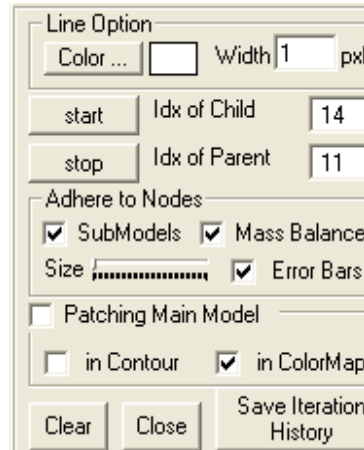
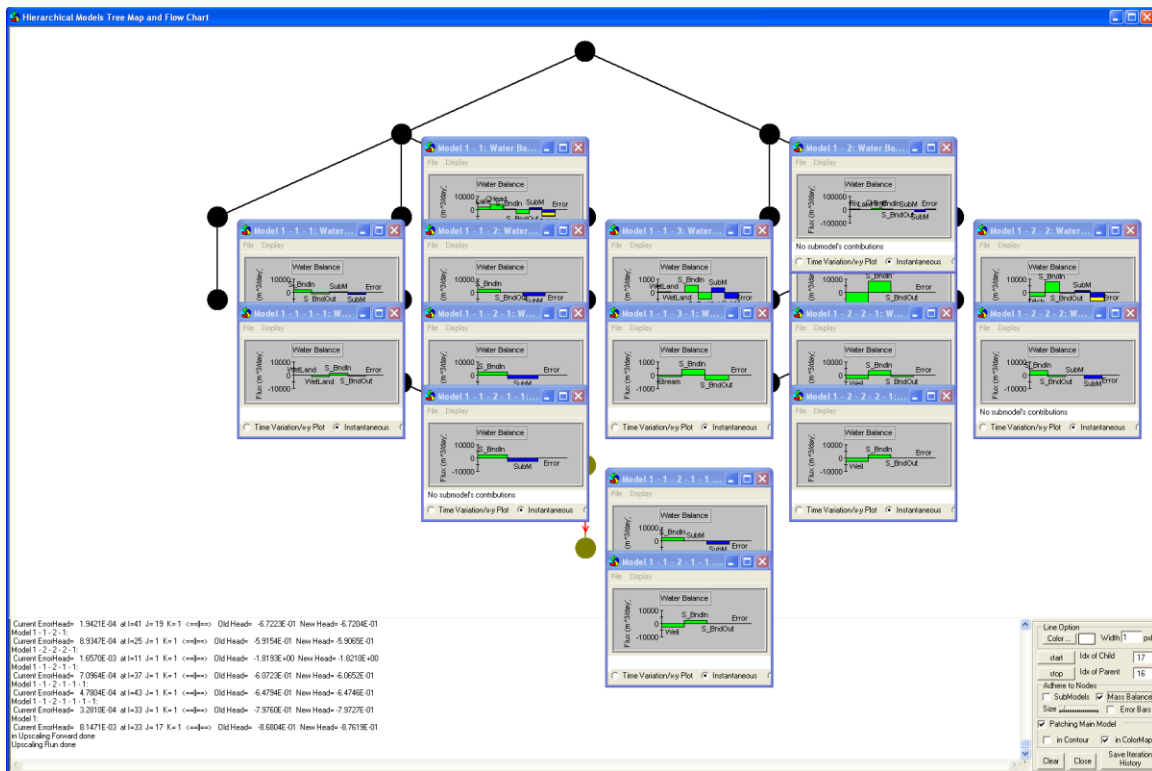

Figure 15-13 Tree Map Objects Control Panel
Figure 15-19 Water Balance for Submodels
A **Tree Map Objects Control** panel is located in the bottom right corner of the window. **Figure 15-13** shows the panel in detail.
By checking the ‘**Mass Balance**’ box in the Tree Map Objects Control Panel (**Figure 15-13**), the user can observe mass balance for every submodel in the hierarchical structure. However, before checking this box, the user has to open the mass balance windows for the submodels using the following steps.
- (5) Click once on the **SubM** bar again and the next hierarchical level water balance will appear in a separate window.
- (6) Keep clicking in each color of the **SubM** bars till the last hierarchical level is reached. No **SubM** component will be shown in the water balance window when last hierarchical level is reached.
- (7) Check the Mass Balance box in the Tree Map Objects control panel (**Figure 15-13**). All mass balance windows for sub models will appear next to their respective nodes as shown in **Figure 15-19**.